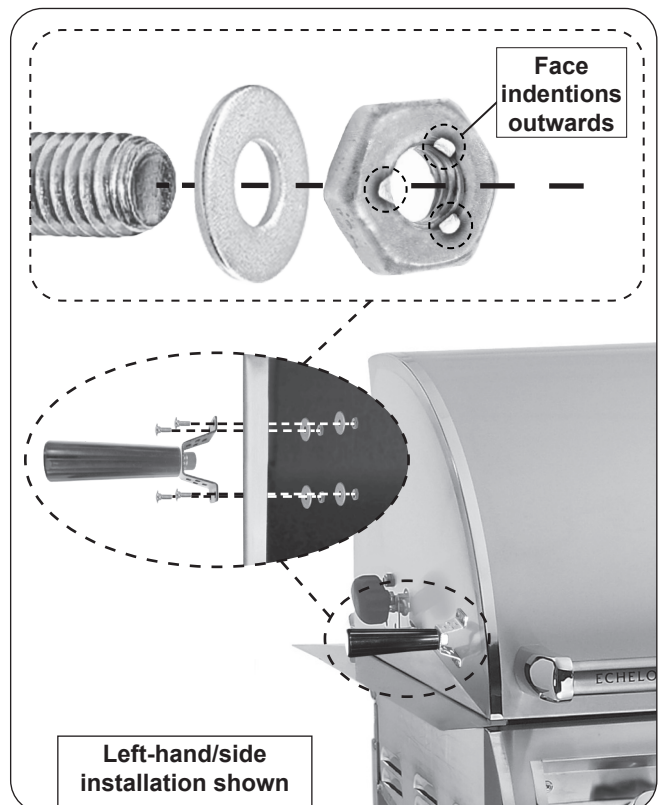

Fig. 2-2 Install bracket to hood (on gas or electric grill)
6. Align the bracket to the holes on the oven hood and fasten the handle kit using the supplied screws, washers, and nuts (see Fig. 2-2).
Important: Examine nuts provided and notice the indentions on the nut. When securing the handle, ensure to face those indentions outwards from the bolt to tighten and keep from getting stuck. See Fig. 2-2.